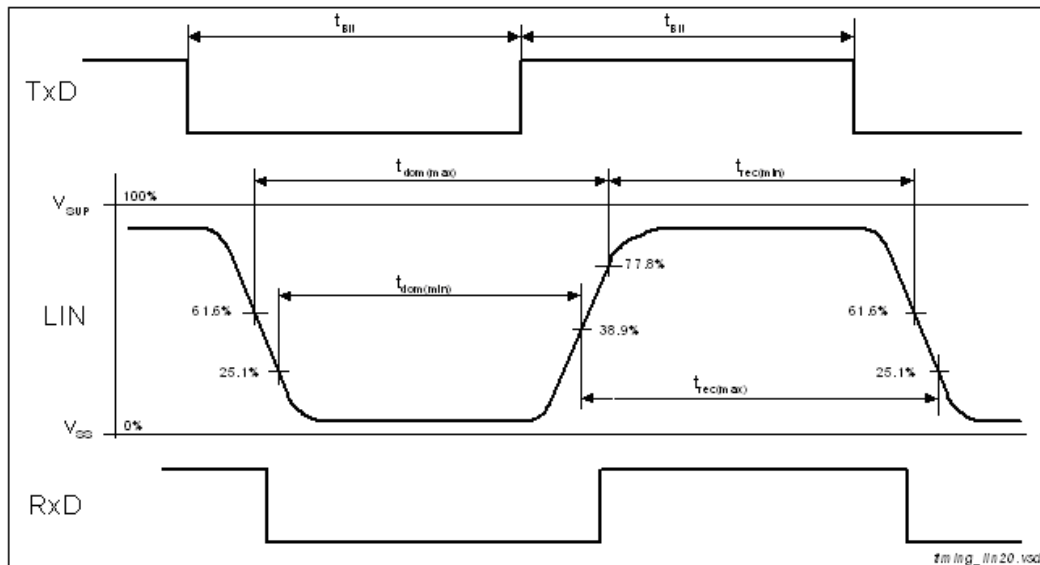

Figure 5 - Duty cycle measurement and calculation in accordance to LIN physical layer specification 2.x for baud rates of 10.4Kbps or below
- [2] See figure 5 – LIN timing diagram
A negative edge on the pin WAKE and a dominant voltage level for longer than the specified time(t_{wu_local}) will cause a local wake-up. The current for an external switch has to be provided by an external pull up resistor R_{WK} . For a reverse current limitation in case of a closed external switch and a negative ground shift or an ECU loss of ground a protection resistor R_{WK_prot} between pin WAKE and the switch is recommended. (see fig.5 page)
The device can distinguish between a local wake-up event (pin WAKE) and a remote wake-up event. The wake-up source flag is set after a local wake-up event and is indicated by an active LOW on pin TxD. The wake-up flag can be read if an external pull up resistor towards the microcontroller supply voltage has been added (see fig.5) and the MLX80020 is still in standby mode: